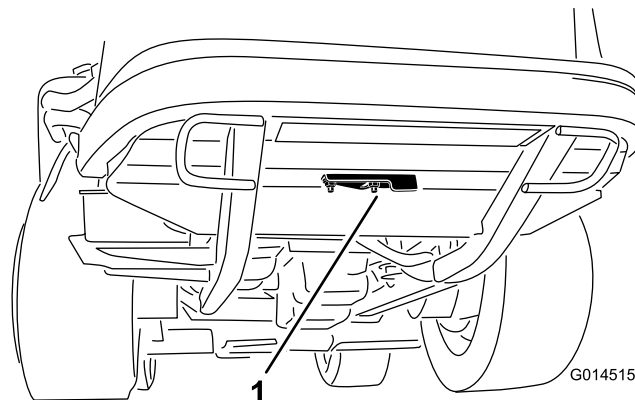

Figure 61
2. Loosen the flange nut securing the clean-out cover to the underside of the rear frame (Figure 61). Rotate the cover to the side to expose the clean-out hole in the frame.